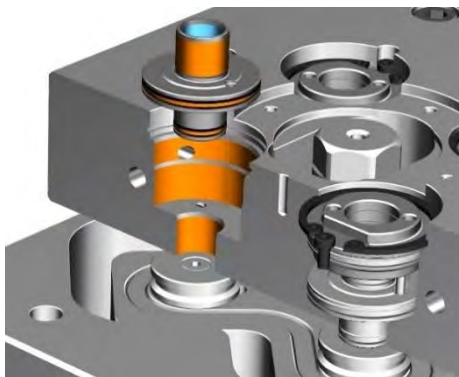

Figure 43: Areas to be greased
- 3) Grease the O-rings on the cylinder piston and the running surfaces with heavy-duty lubricant (HASCO Z260) (areas highlighted in orange in Figure 43). The area marked in blue must remain grease-free.
- 3) Grease the O-rings on the piston unit and the running surfaces with heavy-duty lubricant (HASCO Z260) (areas highlighted in blue in Figure 43).